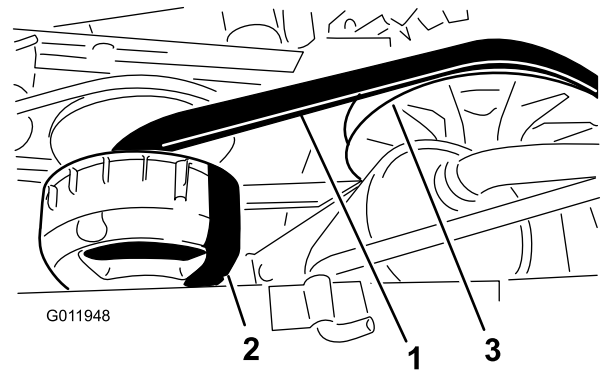

Figure 72
4. Rotate and inspect the belt (Figure 72) for signs of excessive wear or damage.
3. Rotate and route the belt over the secondary clutch (Figure 72).
4. Remove the belt from the primary clutch (Figure 72).
5. Align the new belt over the primary clutch (Figure 72).
6. Rotate and route the belt over the secondary clutch (Figure 72).